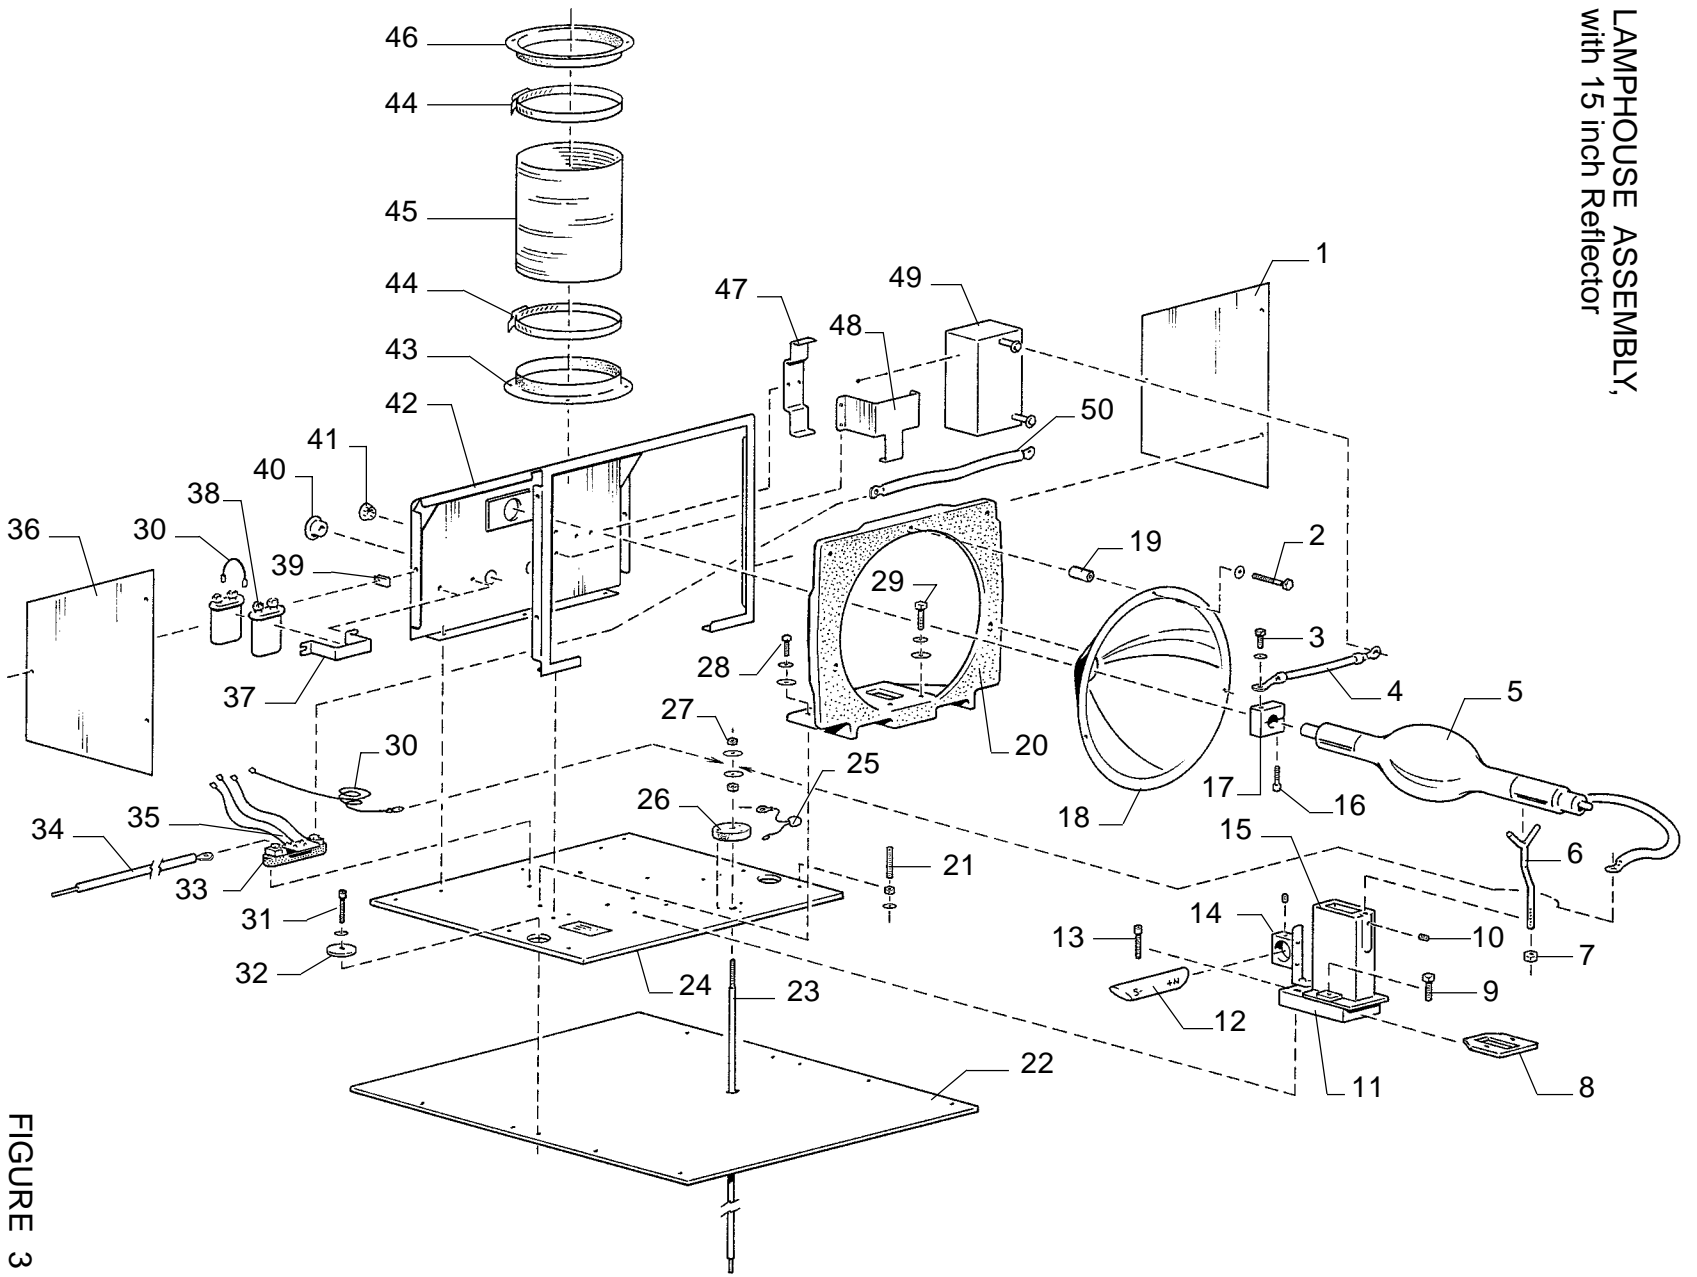
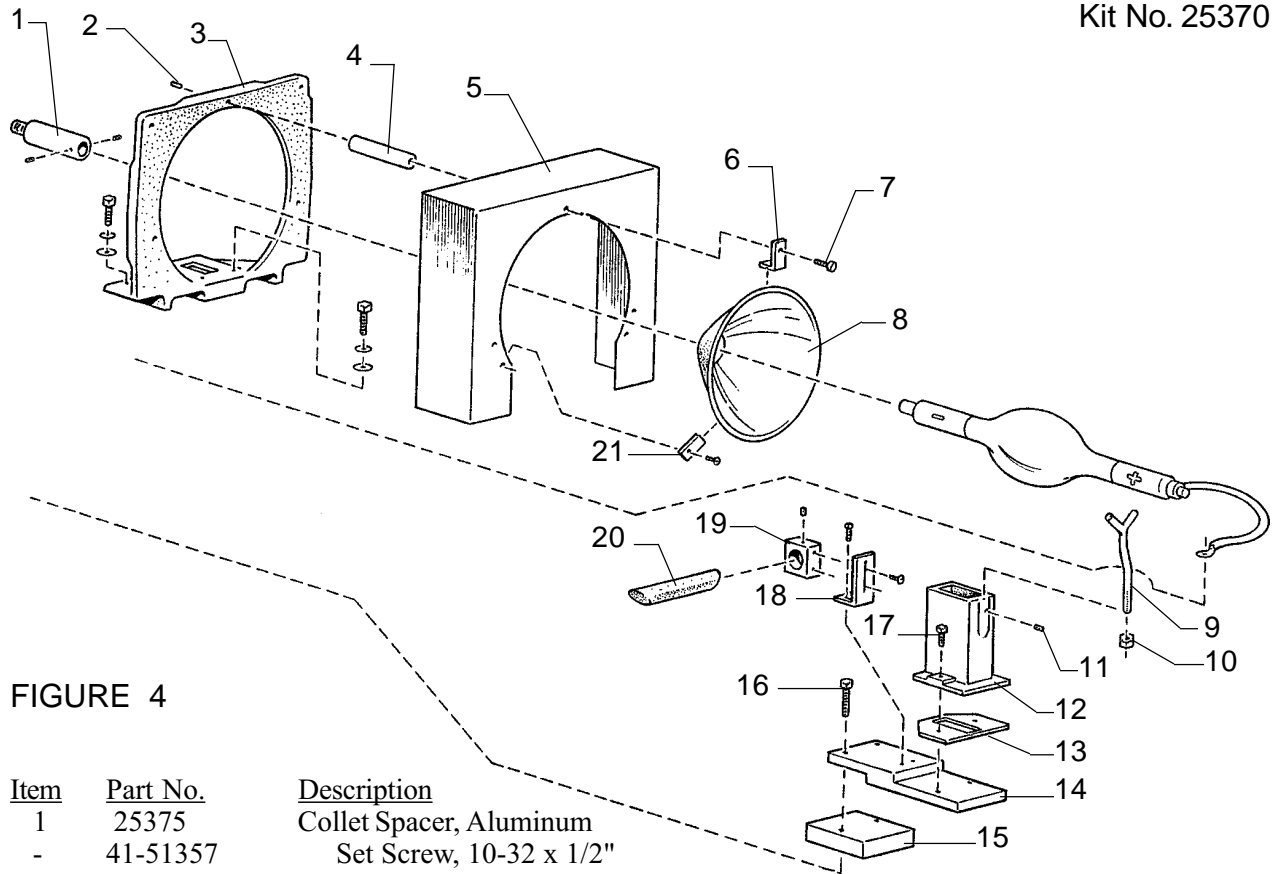

FIGURE 3
FIGURE 4
2. Dismount the 15 inch reflector (Figure 3, Item 18) by removing the (3) mounting screws (Figure 3, Item 2) and spacers (Figure 3, Item 19).
4. Dismount the front bulb support assembly (Figure 3, Items 8 & 15) by removing the (2) nylon screws (Figure 3, Item 9). Dismount the arc stabilization magnet (Figure 3, Items 12 & 14). Retain all mounting hardware. Mounting block (Figure 3, Item 11) remains mounted to the base plate.
5. Insert the nylon end of the bulb support collet (ref. Step 3) into the end of the aluminum collet extension (Figure 4, Item 1) and secure using the (2) 10-32 set screws. Install the collet and the collet extension into the bulb positioning assembly and secure using the 21-48027 snap ring.
6. Install the bulb support extension plate (Figure 4, Item 14) as shown on Figure 4 to the bulb support mounting block (Figure 3, Item 11). Secure using the (2) 5/16-18 x 3/4" hex head screws supplied (Figure 4, Item 16).
7. Mount the bulb support yoke and casting (Figure 4, Items 9-12) and the insulator (Figure 4, Item 13) to the extension plate (Figure 4, Item 14). Secure using the original (2) nylon screws (Figure 4, Item 17). Mount the arc stabilization magnet (ref. Step 4) to the extension plate as shown on Figure 4 using the original mounting hardware. Loosen the set screw on the top of the magnet clamp (Figure 4, Item 19) and *reverse the magnet* so the SOUTH pole is directed toward the operator's access door.
8. Locate and identify the (3) reflector spacer rods (Figure 4, Item 4). The rods are drilled and tapped 1/4-20 at both ends; one end 1/2" deep, and the other end 3/4" deep. Thread the (3) headless 1/4-20 set screws into the 1/2" deep holes. Screw the protruding studs of the headless set screws into the (3) tapped holes in the bulkhead casting (Figure 4, Item 3) and secure the (3) spacers to the bulkhead casting.
9. Mount the stainless steel cooling shroud (Figure 4, Item 5) to the (3) spacer rods as shown on Figure 4. Secure first the lower (2) positions using the 1/4-20 x 5/8" hex head screws; insert the upper reflector mounting bracket (Figure 4, Item 6) as shown before installing the upper screw.
10. Mount the (2) lower reflector supports (Figure 4, Item 21) to the cooling shroud as shown. Do not tighten the (2) 10-32 mounting screws.
11. Install the 12.8" reflector (Figure 4, Item 8), engaging the reflector flange into the grooves in the reflector supports (Figure 4, Items 6 & 21). Tighten the (2) 10-32 screws securing the lower supports (Figure 4, Item 21).